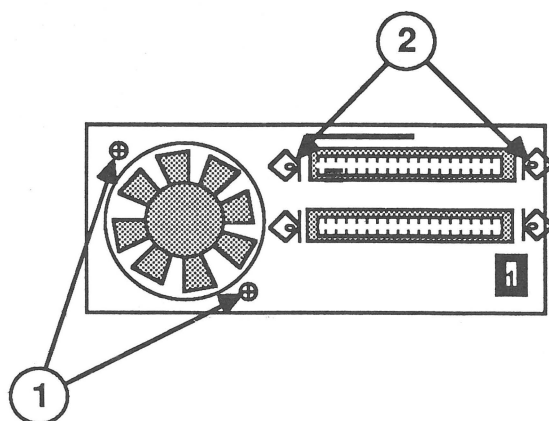

FIGURE 4
3. Remove the two screws (Figure 4, #1) that secure the fan to the frame.
4. Remove the two screws that secure the upper SCSI cable connector to the frame (Figure 4, #2). Push the connector back through the frame opening far enough to free the fan cable. Lift the fan and fan cable free.
2. Replace the two screws (Figure 4, #1) that secure the fan to the frame.
4. Replace the two screws that secure the connector to the frame (Figure 4, #2).